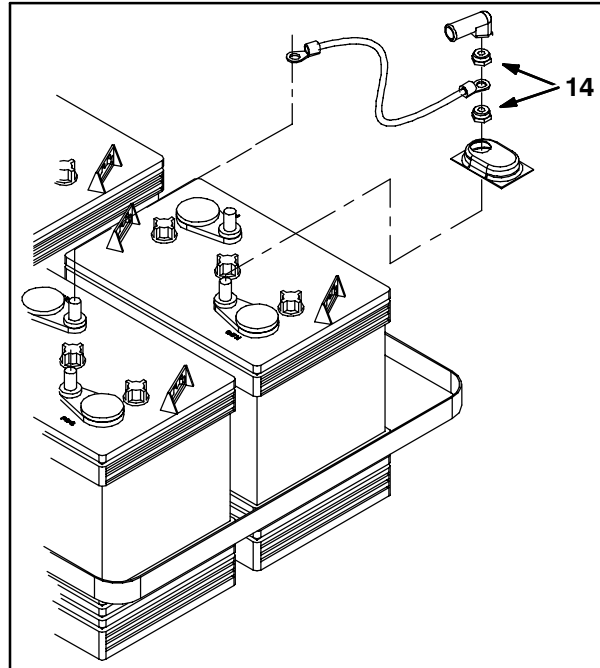

FIG. 3
12. Connect connectors (H), (J), and (K) from the wire harness to the circuit board (1).
13. Connect connector (G) to the circuit board (1).
14. Place the electrical panel cover (C) back onto the control panel weldment (10) and use the set aside bolts (A) and washers (B) to secure the electrical panel cover on the control panel weldment.
15. Check all battery, live contact, and fuse connections. It should not be possible to move these cables by hand. If necessary, replace the existing battery cable nuts with the provided lock nuts (14). Refer to Fig. 3.